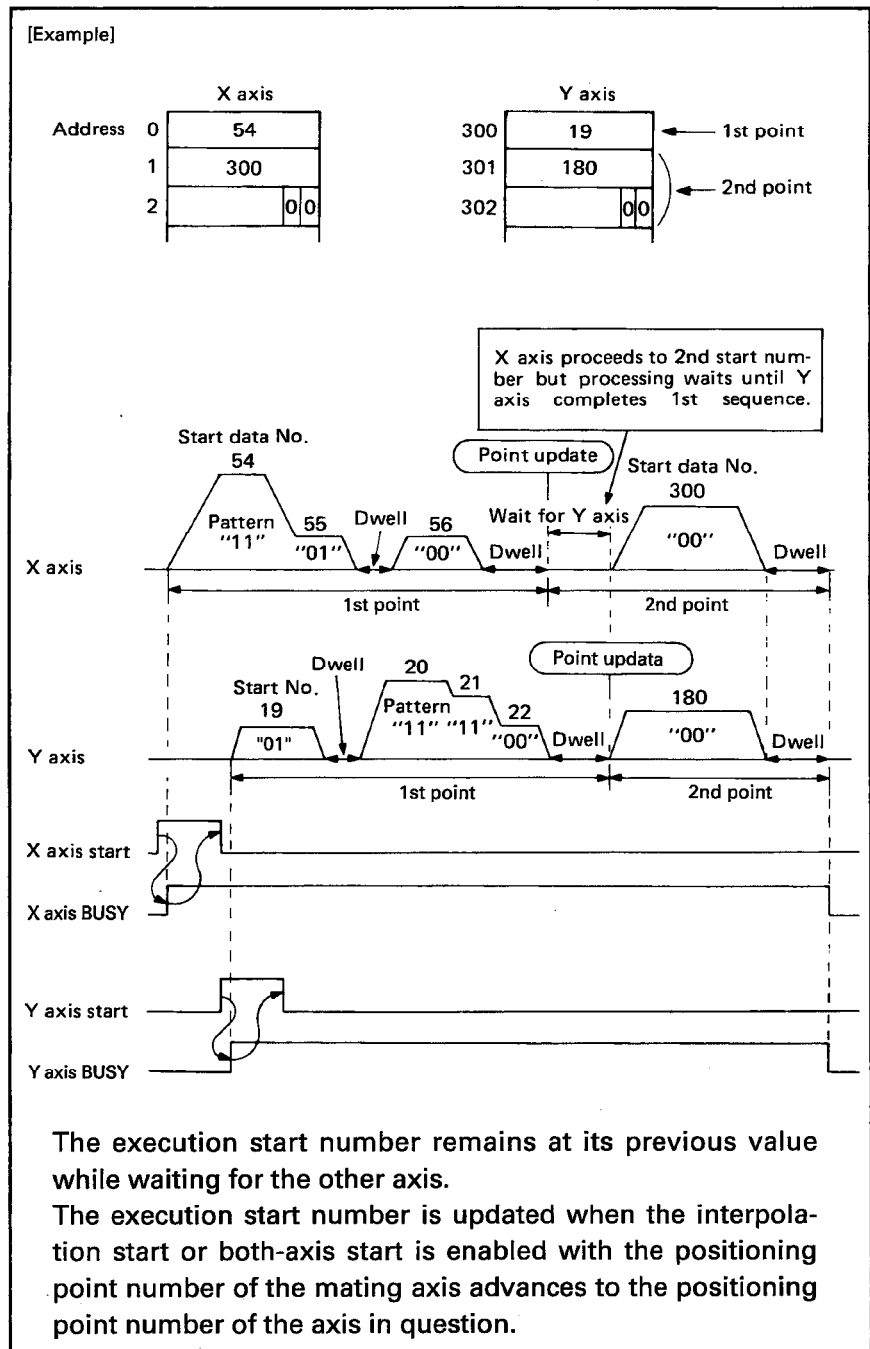

Fig. 3.35 Start Data Example 5
- 5) If the interpolation start (00) or both-axis start (11) is set for the start axis of either of the two axes, the processing differs depending on the contents of positioning processing of the mating axis if the mating axis is executing positioning.
- If the mating axis is executing positioning at a point number smaller than the positioning point of the axis in question, its positioning processing is suspended until positioning processing of the mating axis advances to the same point number or the mating axis BUSY state goes off. The state of the axis in question remains BUSY while its positioning processing is suspended (See Fig. 3.35.).